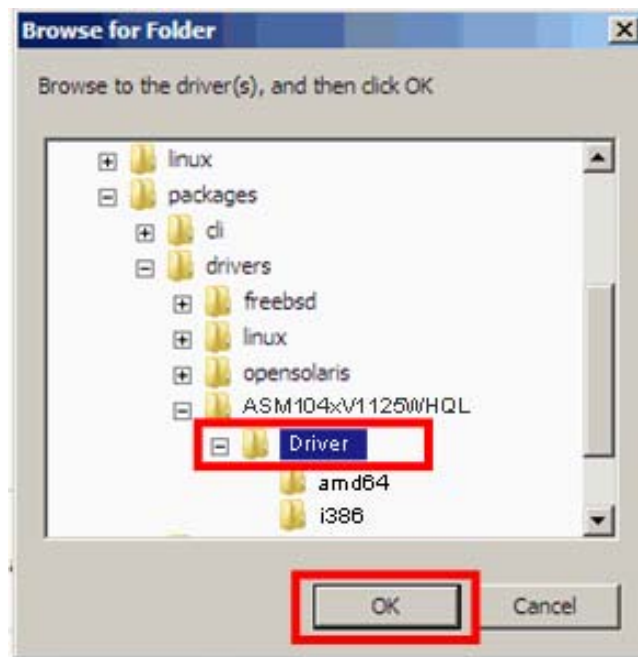

Figure 6-26: Browse for Folder
Step 3: Locate the USB 3.0 driver folder, select **Driver**, and then click **OK** (Figure 6-26).
Step 6: Make sure the **Driver** subfolder inside the USB 3.0 driver folder is selected, and then click **OK** (Figure 6-26).